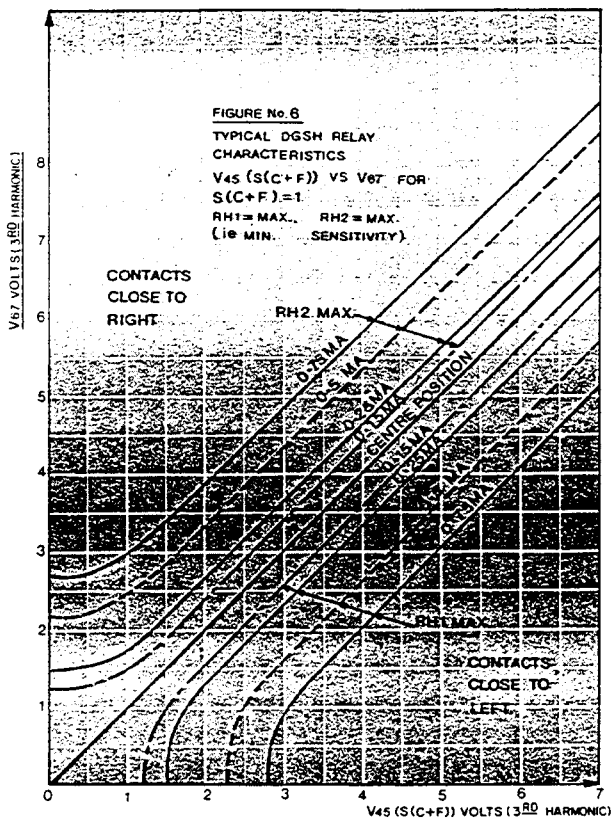
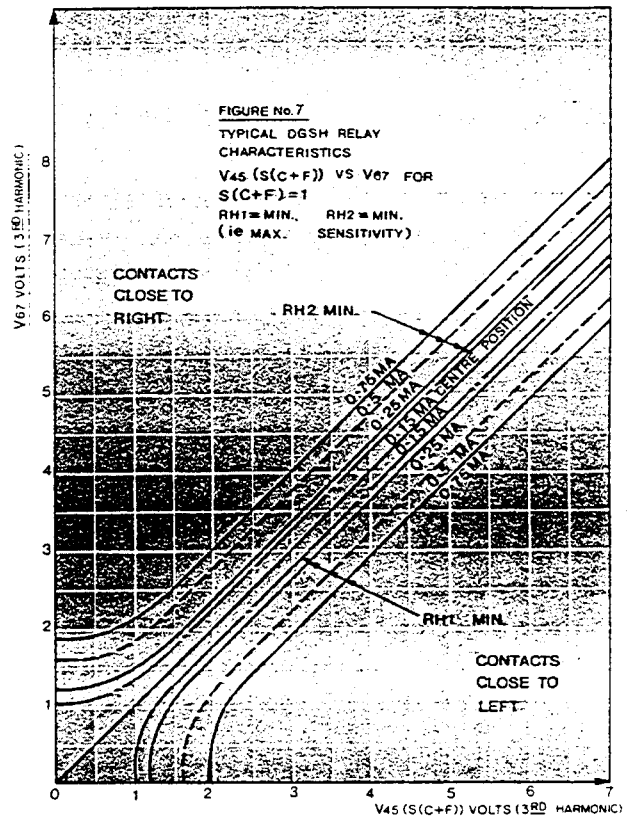

Figure 6
Figure 7
As indicated by Figures 6 and 7, RH-1 provides some sensitivity adjustment. Maximum sensitivity is with RH-1 at zero resistance. Minimum sensitivity is with RH-1 at maximum resistance.
With this setting the relay sensitivity will be approximately as shown in Figure 6. That is a difference of 2.7 volts will produce a minimum deflection of 0.75 ma.
- ★ 3. From fig. 6 (relay minimum sensitivity), or fig. 7 (relay maximum sensitivity) determine V_{67} volts at $V_{45} S(C+F) = 0$, for contact setting used. This will be the value $V_{(DIFF)}$ used in step 4.
3. Using fig. 6 (minimum sensitivity), with a **right hand contact** setting of 0.15 ma, then the value of V_{67} with $V_{45} S(C+F) = 0$ is estimated to be about 1.2 volts ($V_{(DIFF)}$).